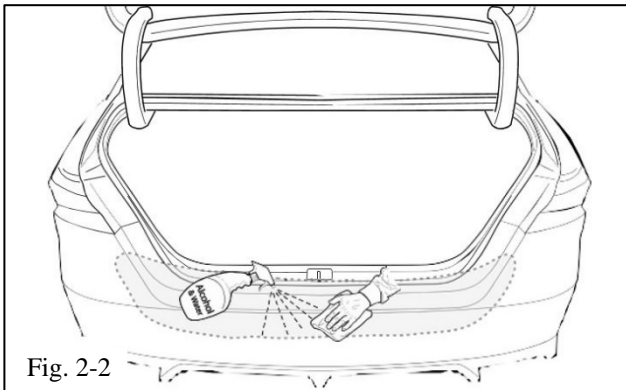

Fig. 2-2
- (b) Mist the part and bumper with wetting agent (Fig. 2-2).